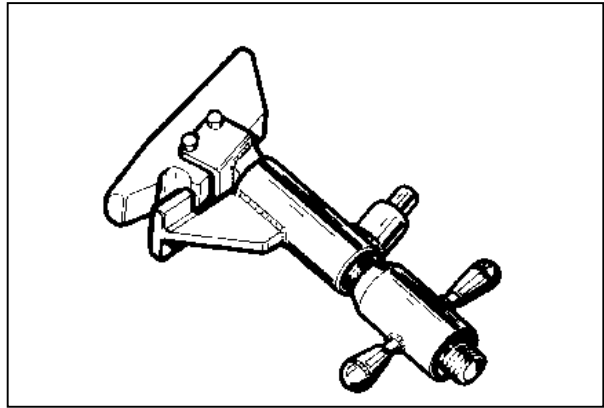

Fig.8
**#14021247 Cone flange**(Fig.8)